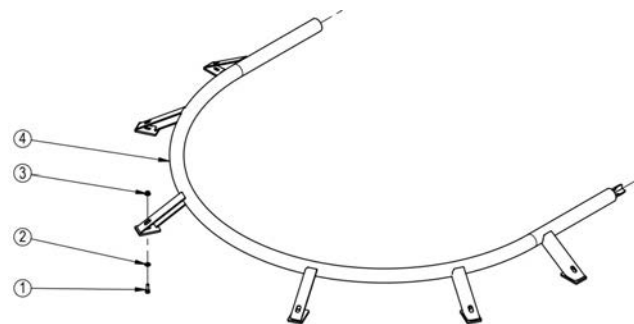

Figure 2: Fasteners for the Hay Ring
1. Place one of the curved pieces of the hay ring (4) onto the top tub ring; see *Figure 2*.
3. Place a 1/2" flat washer (2) over a 1/2" x 1-1/2" hex bolt (1); see *Figure 2*.
see *Figure 2*.
8. Place a ½" flat washer (2) over a ½" x 1-1/2" hex bolt (1); see *Figure 2*.
10. Place a ½" flange locknut (3) onto the bolt;